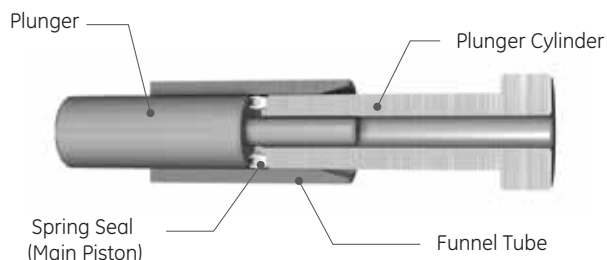

Figure 27: Funnel Tube
- iv. Insert funnel tube, chamfer side first, over the plunger and spring seal (adjuster top). Stop when spring seal (adjuster top) is about half way inside the funnel tube as shown in Figure 27.